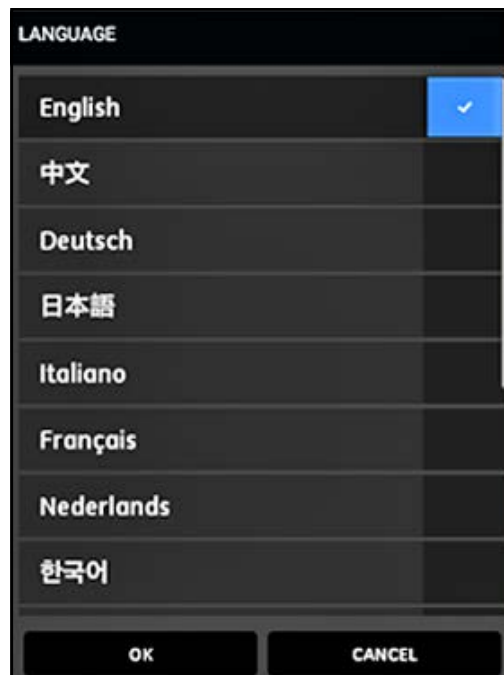

Figure 59: PT900 APP Language Options
3. At the screen shown in *Figure 59* below, select the desired language for the APP and click OK.